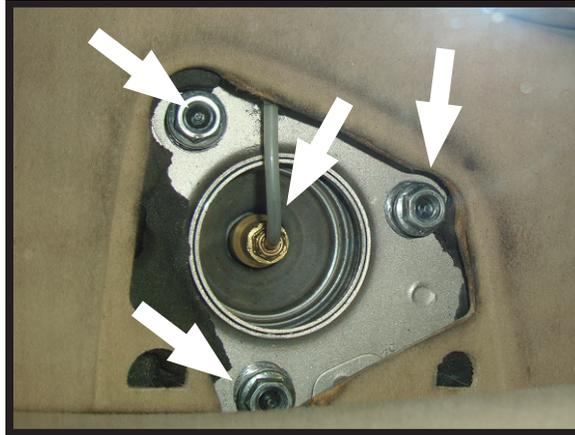

FIGURE 3
5. LOOSEN AND REMOVE THE 3 MOUNTING NUTS FROM THE TOP OF THE AIR STRUT. DISCONNECT THE AIR LINE. (FIGURE 3)